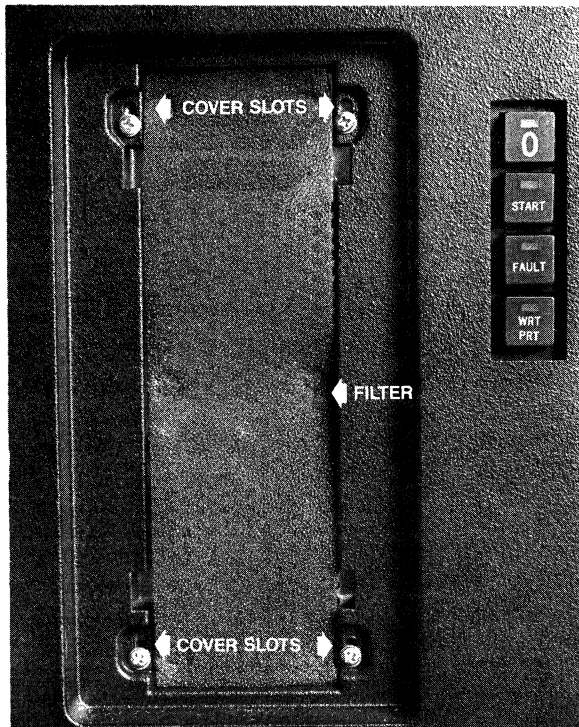

Figure 3-5. Filter Cover Catches
4. Replace the filter cover by aligning the catches on the cover with the slots on the panel and pushing until the catches snap into place (Figure 3-5).
6. Replace the filter cover by aligning the catches on the cover with the slots on the panel and pushing until the catches snap into place (see Figure 3-5).